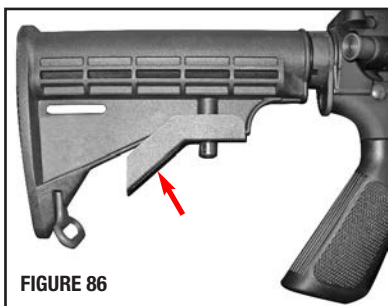

FIGURE 86
- To extend the collapsible stock, depress lever (FIGURE 86) and pull the stock out until it locks into position.